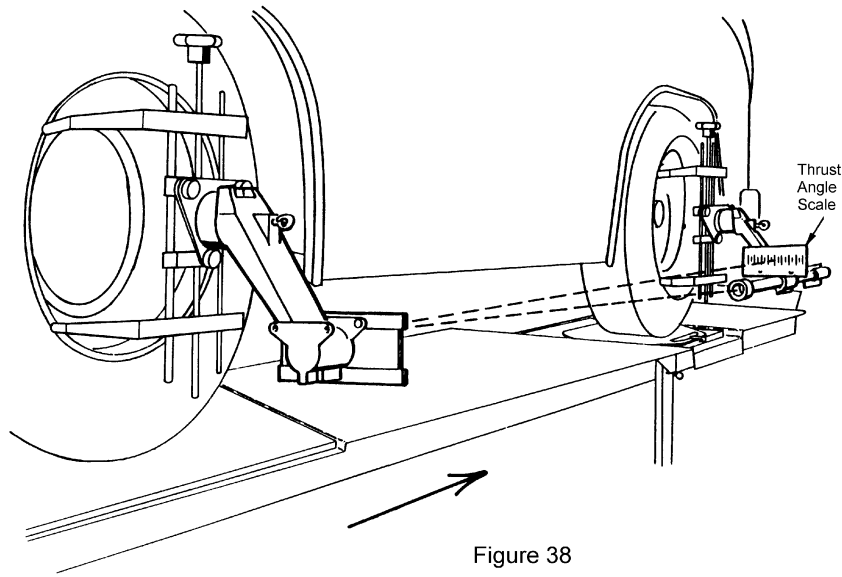

Figure 38
- 1) Check that both Laser Toe Gauges are level. The laser beams should be visible on the rear Retro-screen mirrors.(See Fig. 38)